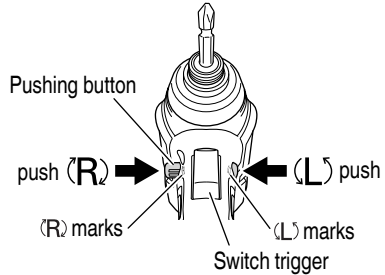

Fig. 8
The bit rotates clockwise (viewed from the rear side) by pushing the R-side of the pushing button. The L-side of the pushing button is pushed to turn the bit counterclockwise (See Fig. 8). (The (L) and (R) marks are provided on the body.)